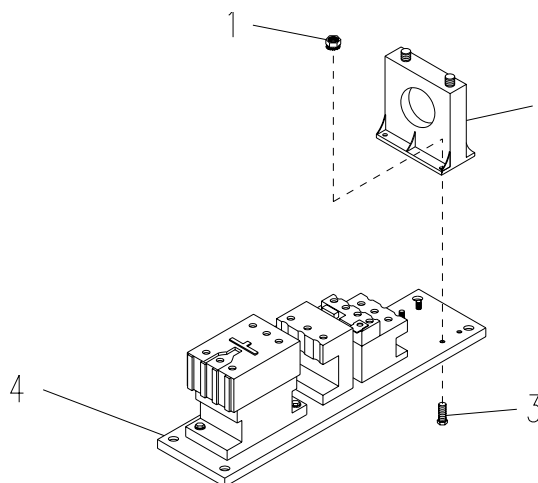

Figure 5-9. Current Transformer
- a. Remove four nuts with captive washers (1, Figure 5-9) and four screws (JTACS and WIN-T), or slotted hex-head bolts (JTACS and WIN-T) (3) and remove current transformer (2) from contactor mounting plate (4).
- b. Install current transformer (2) to contactor mounting plate (4) and secure with four nuts with captive washers (1) and bolts (3).